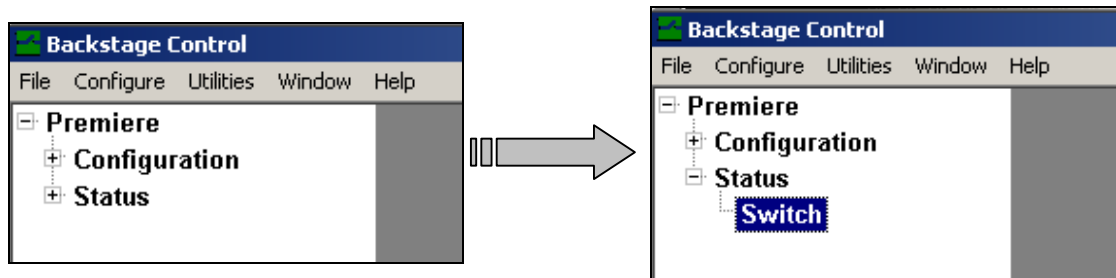

FIGURE 80: Expanding The Root Directories
- 1) In the tree window, access the Switch directory by expanding the Premiere and Status root directories by clicking on the x-box (☒) adjacent to each directory (see Figure 80).